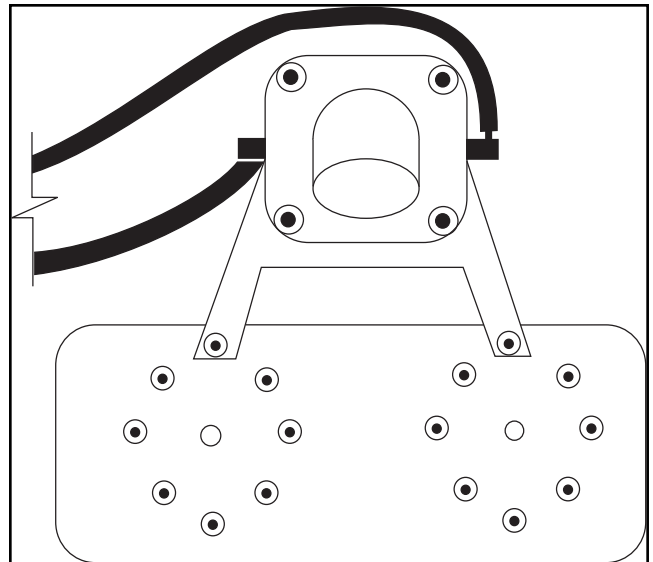

Fig. 2
8. Install the K&N Adapter tube onto the K&N Adapter base plate (Fig. 2) using the provided gasket and screws.